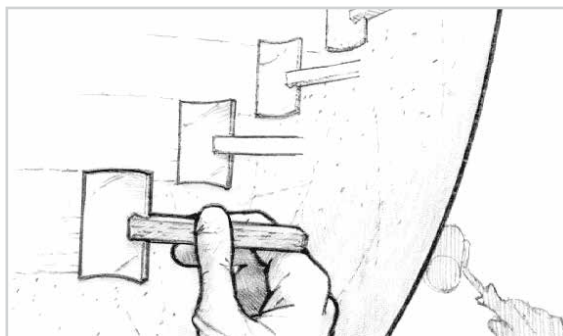

Figure 13-4 Tip off each fresh coat of epoxy with a foam roller brush to reduce bubbles and roller marks.
6. Tip off the freshly applied batch area before you begin applying the next batch. Drag a foam roller brush lightly over the surface in long overlapping strokes, in one direction, to remove roller marks and air bubbles in the coating. You will find that the thinner the coating, the smoother the finish after tipping off. You may choose to have a helper preparing your next batch of epoxy then tipping off behind you while you continue rolling (Figure 13-4).